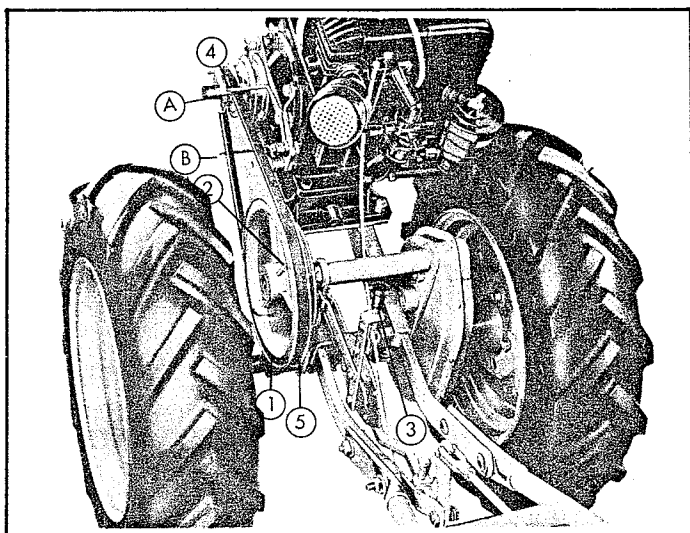

Fig. 1
Recommended for close cultivation and for use with weed cutter and saw in horizontal position. Miles per hour 1.25 to 1.85. To obtain "Lo Lo" speed see Fig. 1.
With pulley (1) mounted as shown (small pulley to the outside) raise pulley plunger (2), Fig. 1, and slide pulley (1) to the left until plunger drops into middle spot on pulley shaft.